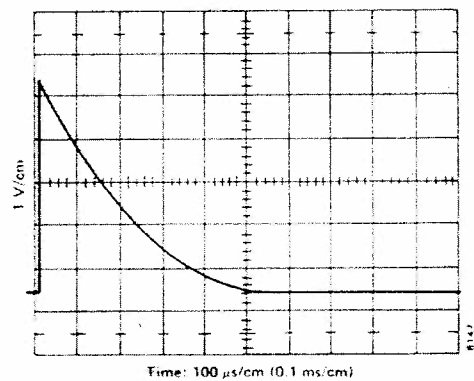

Figure 2 Pulse generator output
4. Turn on the pulser. If you hear a faint buzzing noise, that's normal! Adjust the triggering level on the oscilloscope (8) until you see a display like that in Figure 2. Adjust the position controls until the baseline of the trace is on the grid line 3 cm below midscale, and the rise is along the left-hand edge of the scale. (The rise is very fast and nearly invisible. See if you can expand the scale enough to estimate the rise time; it will be less than 1 μ sec. Then return the horizontal scale to 100 μ sec/cm.)